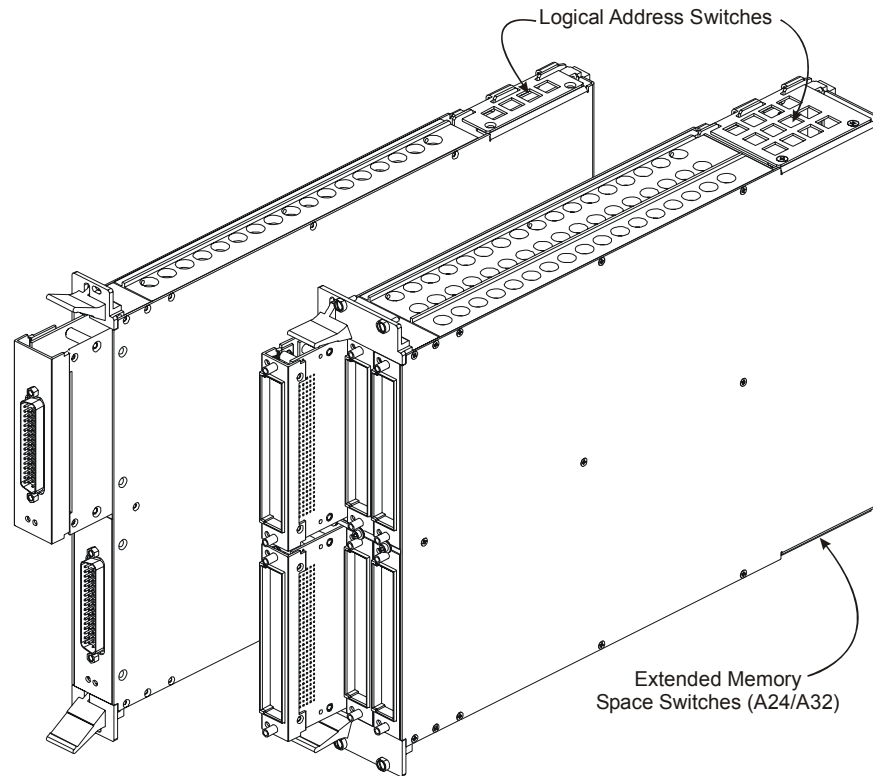

FIGURE 2-1: SWITCH LOCATIONS
The SMIP II base units have three configurable switches. The two rotary dials (S1 and S2) located at the top edge of the interface card set the logical address (LA) for the module, while the two-position DIP switch (S3) located at the bottom edge of the interface card sets the extended memory space for the module to either A24 or A32. Figure 2-1 below shows the location of these switches and the following paragraphs explain how they are configured.